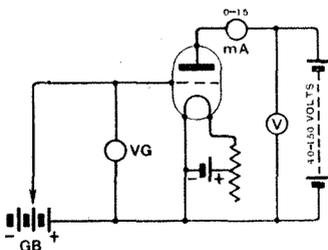

Fig. 3. The connections of the apparatus required when finding the figures for the characteristic curves of Figs. 2 and 3.
These curves may be obtained in the following simple manner. Connect in the anode circuit of the valve (Fig. 3) a milliammeter mA, reading up to, say, 10-15 milliamperes, and a dry cell battery of known voltage  $V$ . In the grid circuit connect a few cells (GB) so that the grid voltage, as read by the voltmeter VG, may be varied between, say, 15 volts negative and a few volts positive. Adjust the filament current to its normal value, and fix the anode voltage at, say, 40 volts. Then read off the anode current for various grid voltages, and tabulate the results. The results may be plotted to give a curve such as those of Fig. 2 by marking off on squared paper the anode current corresponding to the grid voltages, and drawing a line through the points.